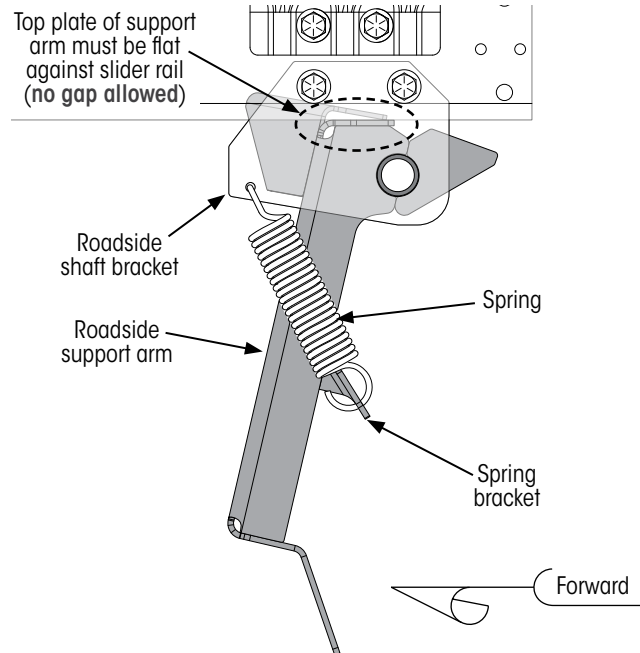

Figure 12: Verifying support arm assembly position
NOTE: At this time, spring tension should be holding the roadside support arm top front edge against the slider rail (Figure 12).
- A. Pull roadside support arm rearward and lift shaft up so the top of the support arm is flat against the slider rail (Figure 12).
9. Verify the top surface of the support arms are flat against the underside bottom surface of the slider rails and there is **no gap** (Figure 12) between the top of each support arm and the slider rail.
IMPORTANT: While engaged, the shaft of the support arm assembly must not assume any load from the trailer. To avoid this, verify there is **no gap** (Figure 12) between the top of each support arm and the slider rail bottom surface.